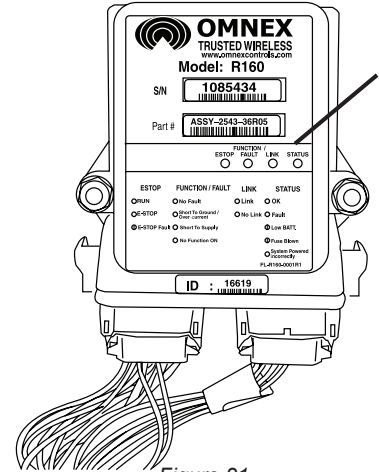

Figure 21
3. Check the receiver (Figure 21). The status indicator LEDs (Figure 21, Item 1) should appear as follows: